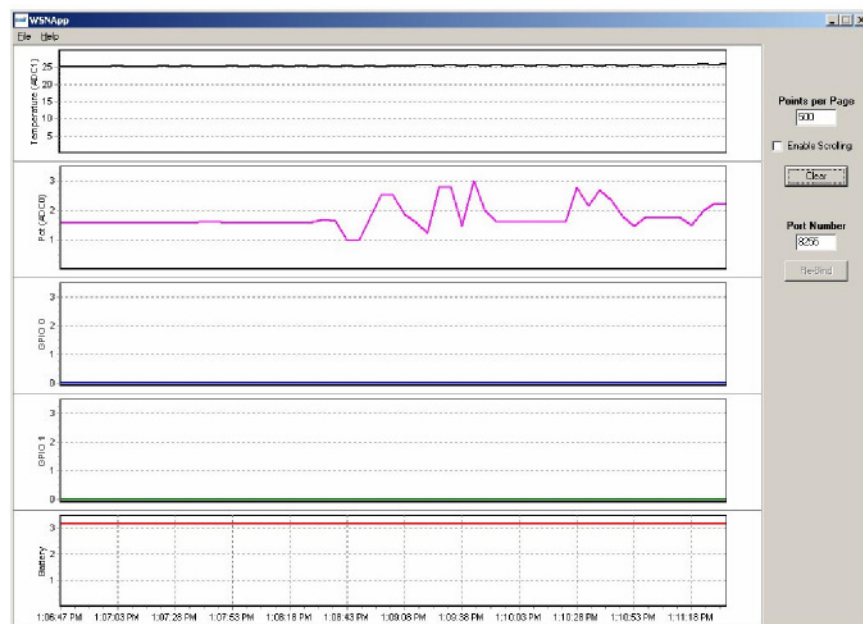

Figure 8.3.5
8. Start WSNApp.exe. Data will automatically begin filling the charts at a 10 s update interval, with data first appearing 20 to 30 s after starting the program. Adjusting the pot on the developer board can be observed in the Pot (ADC0) chart, as shown in Figure 8.3.5. The developer kit is now ready for use.